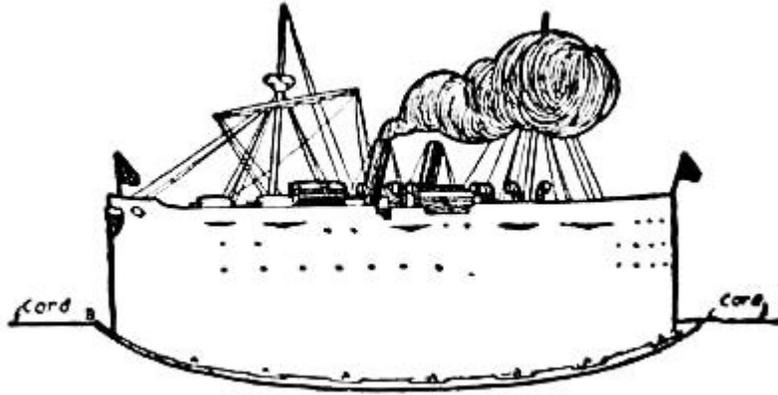

FIG. 353.—A Battleship.
**Battleships** should be made out of cardboard as shown in Fig. 353, with the masts reënforced at the back with strips of wood, and the rigging made with heavy thread. It will be well to have a number of pictures from which to work in drawing and painting the various ships of your fleet. The hull of each ship should be curved as shown in the illustration, and mounted upon a cardboard rocker. Make a number of slashes along the curved edge of the hull, and bend out the little flaps alternately, first to one side and then to the other (see *A* in drawing), after which glue them to the rocker. Attach a cord at *B*, with which to pull the ship across the stage, and another cord at *C*, with which to guide the stern. The hull will, of course, run between the strips of waves, so as to be half concealed by them. A person cannot imagine how realistic these little battleships appear when tossing about upon the toy waves, without having seen them in operation.